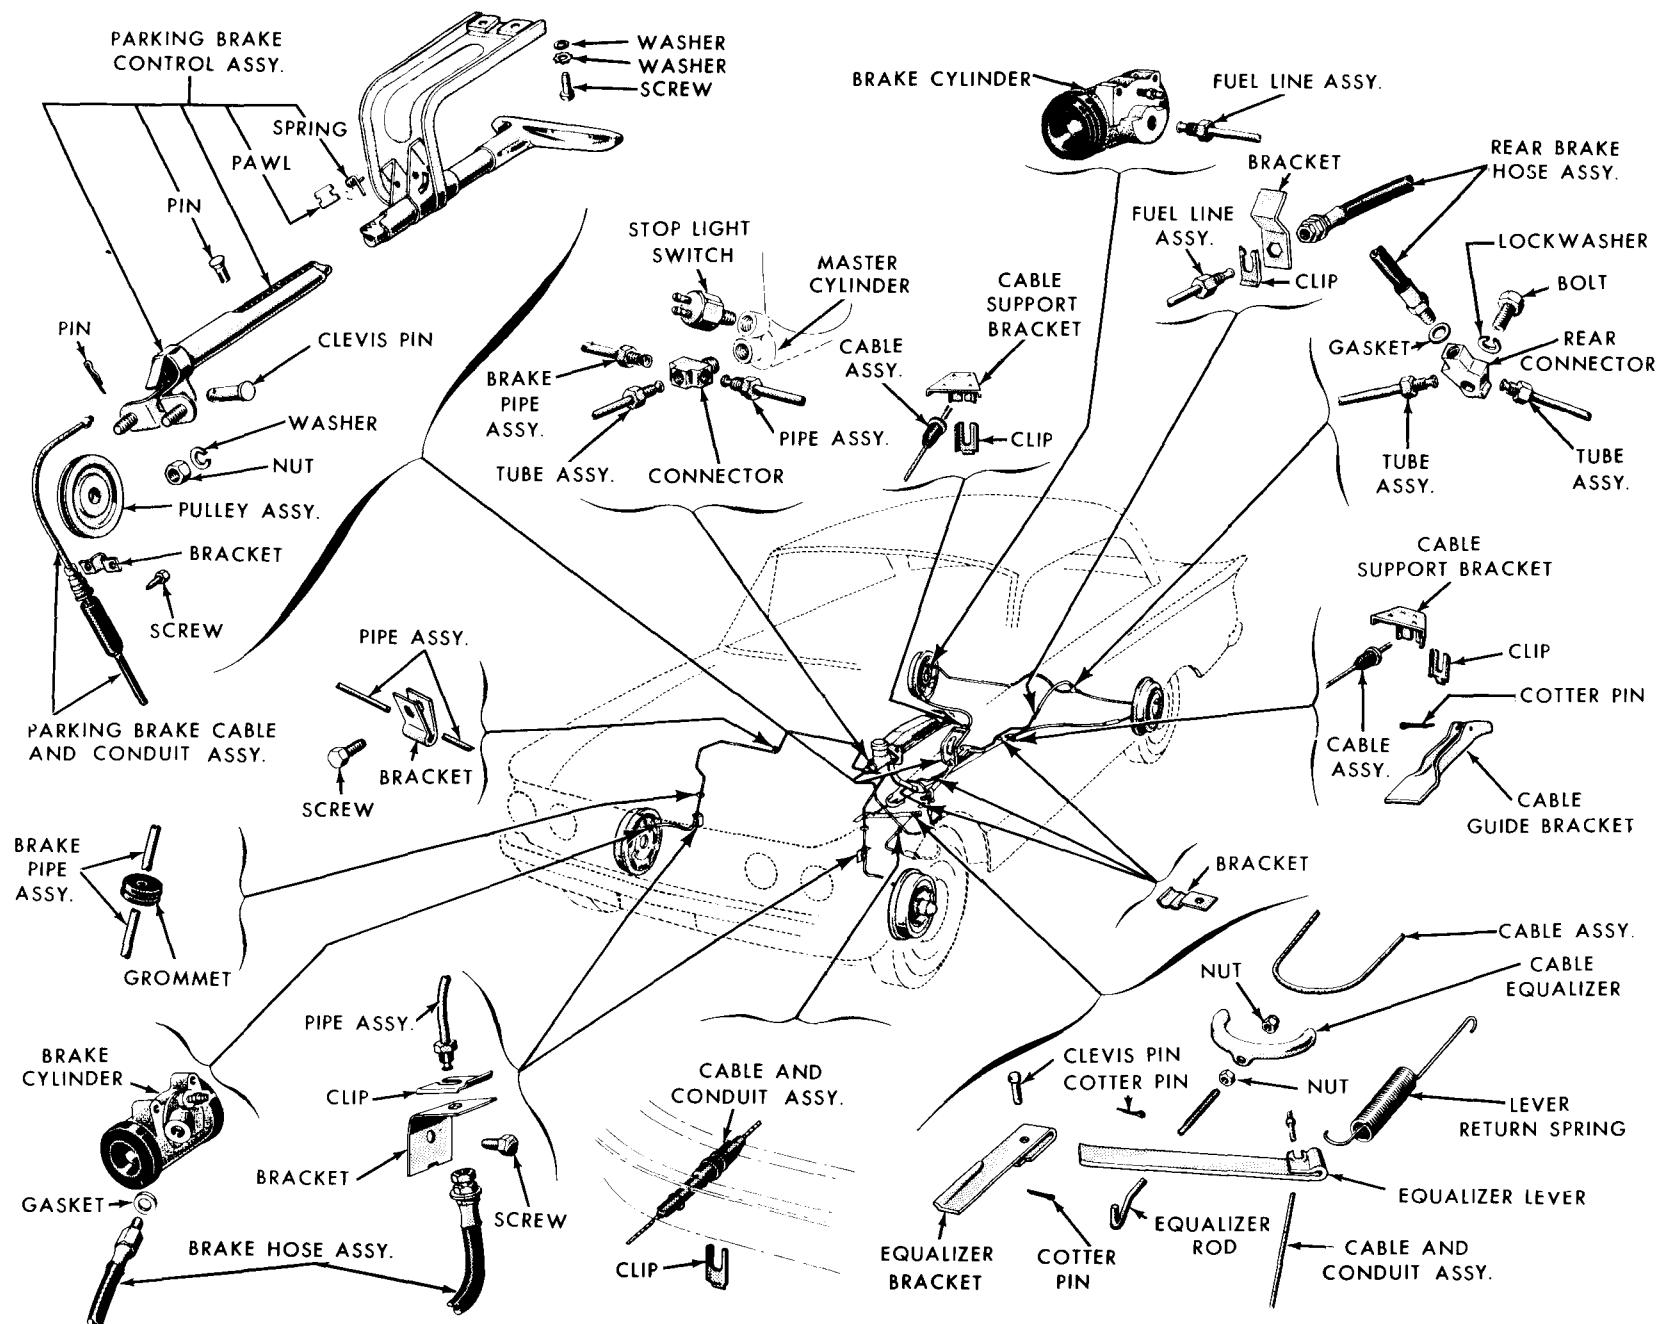

Fig. 2-3—Brake System—(61CM-2001)
2. Refer to figure 2-3. Loosen the locknut located on the front of the equalizer rod; then, turn the nut located on the rear of the equalizer rod forward against the cable equalizer until the cable system prevents forward rotation of the rear wheels.
1. Refer to figure 2-3. Remove the two screws that hold the handle bracket on the instrument panel.
1. Refer to figure 2-3. Remove the two screws that retain the cable clamp to the dash panel.
1. Refer to figure 2-3. Disconnect the parking brake equalizer rod from the equalizer lever.
Refer to figure 2-3. Steel tubing is used throughout the brake system with exception of the flexible hoses at the front wheels and at the rear axle housing brake connector. **Copper tubing should not be used in a hydraulic brake system.**